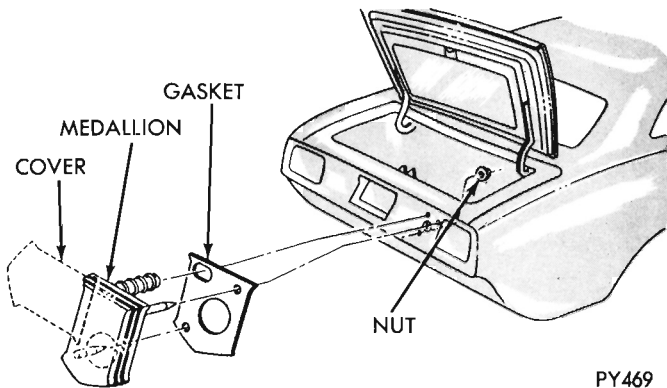

Fig. 44 - Lock Cover Replacement
**LOCK COVER REPLACEMENT (Fig. 44)**
- (1) Position gasket to medallion assembly of deck lid lock cylinder and position over lock bezel and thru attaching holes.
- (2) Secure with nuts.